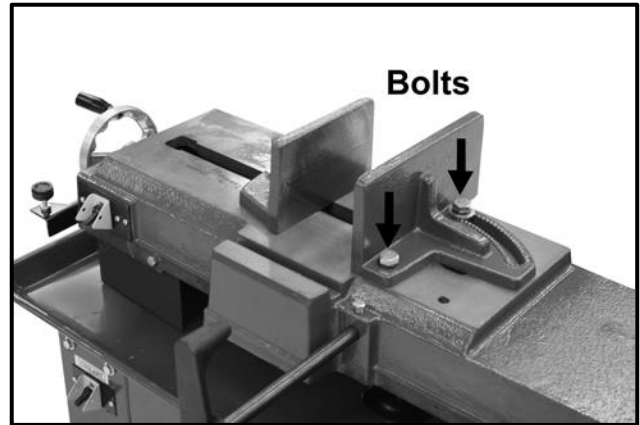

Figure-14 Removing bolts holding the vise
1. Lift the saw arm up to 90-degree and loosen the bolts holding the vise to the saw table. See figure-14.